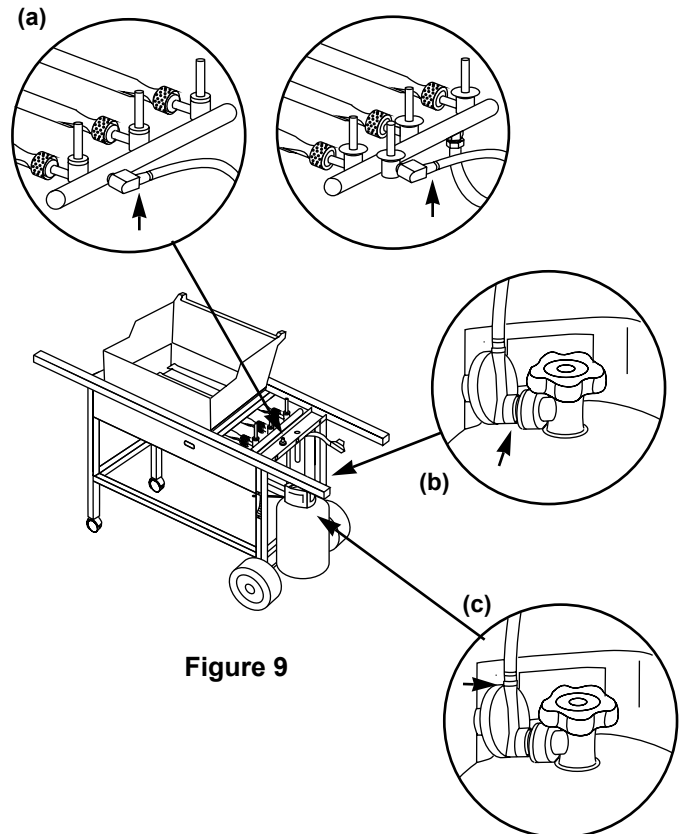

Figure 9
a) Hose to manifold connection. Figure 9 (a).
b) Regulator to tank connection. Figure 9 (b).
c) Hose to regulator connection. Figure 9 (c).